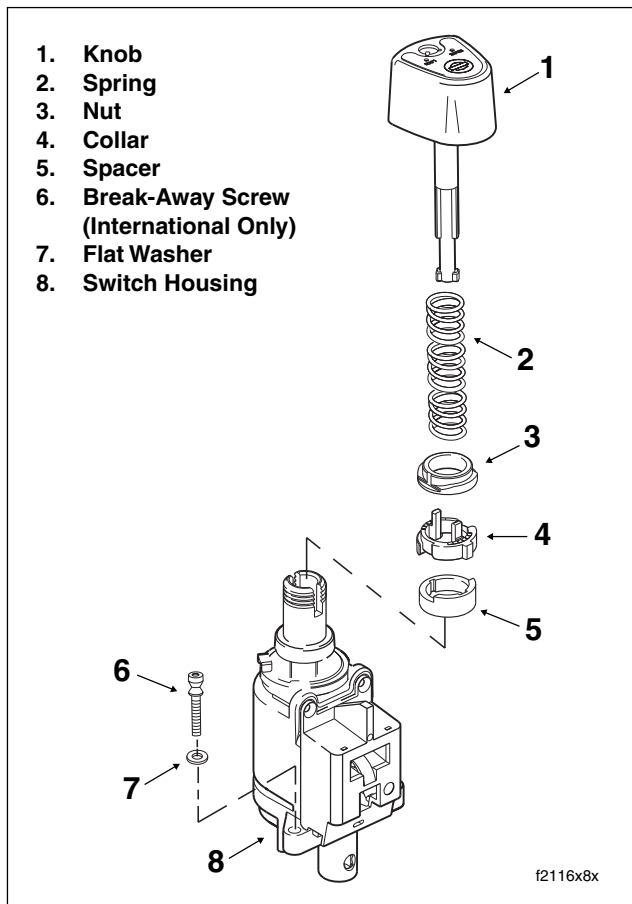

Figure 8-76. Ignition Switch Assembly (International)
9. Remove ignition switch housing from bore of upper fork bracket. See Figure 8-76.
7. Install spacer over threaded post of ignition switch housing until it contacts switch position plate. Orient spacer so that the widest side is forward and the inside tabs fit in slots of post. See Figure 8-76.